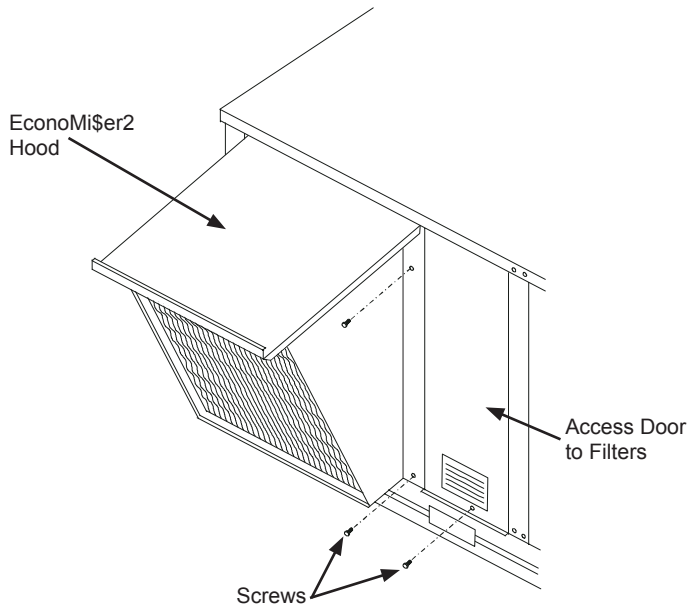

Fig. 9 - EconoMiSer2 Hood Installation
14. Install the EconoMiSer2 hood over the EconoMiSer2. Use screws provided. (See Fig. 9 and 10.) Insert screw through right side flange of hood into EconoMiSer2 flange.
17. Install access door next to hood. Screw bottom of door to HVAC unit. (See Fig. 9 and 10.) For the economizer for the extra large cabinet, install plastic inserts on right-hand vertical post and install long gasketed screws along the vertical edge. Use standard serrated screws along the bottom of the panel for all units.